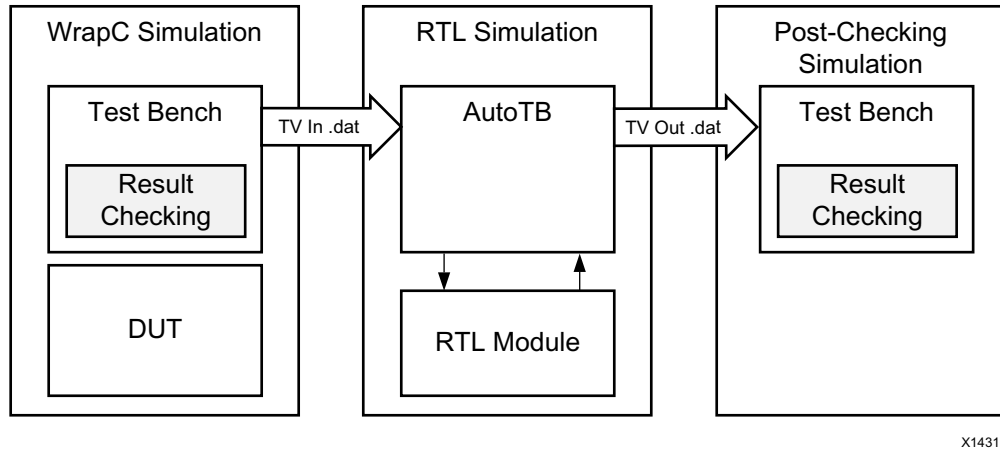

Figure 1-73: RTL Verification Flow
C/RTL co-simulation uses the C test bench to automatically verify the RTL design. The verification process consists of three phases, shown in Figure 1-73.
- **Reduce Disk Space:** The flow shown Figure 1-73 in saves the results for all transactions before executing RTL simulation. In some cases, this can result in large data files. The `reduce_diskspace` option can be used to execute one transaction at a time and reduce the amount of disk space required for the file. If the function is executed N times in the C test bench, the `reduce_diskspace` option ensure N separate RTL simulations are performed. This causes the simulation to run slower.